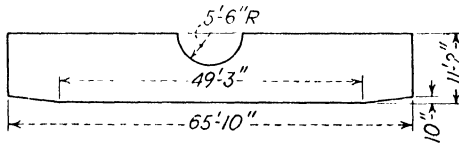

Fig. 98.
4. Find the area of the airplane wing in Fig. 98.